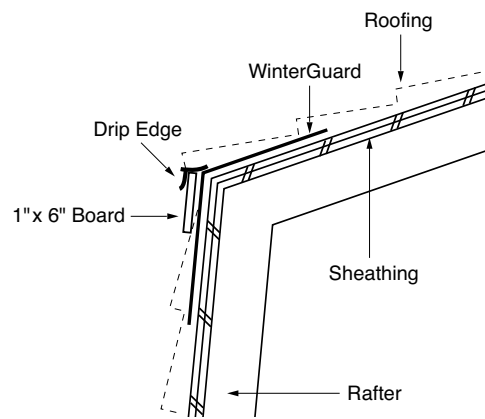

Figure 6-24
2. Drip Edge or Gutter: Apply shingles on the lower roof plane up to the joint and cut off excess shingle material flush to the deck joint. Apply a waterproof type underlayment, such as WinterGuard®, over the joint in the deck planes to help provide a waterproof barrier. The waterproofing underlayment should be applied directly to the upper deck plane and overlap the shingles on the lower deck plane by about 5". Install a 1" x 6" painted fascia board, (the waterproofing underlayment must be totally covered by the fascia board), at the very top of the lower roof and then install either drip edge or gutter onto the fascia. Apply shingles to the upper plane per standard application technique, letting the starter and first course shingles overhang the drip edge or gutter about 1/2" to 3/4". Refer to Figure 6-24.